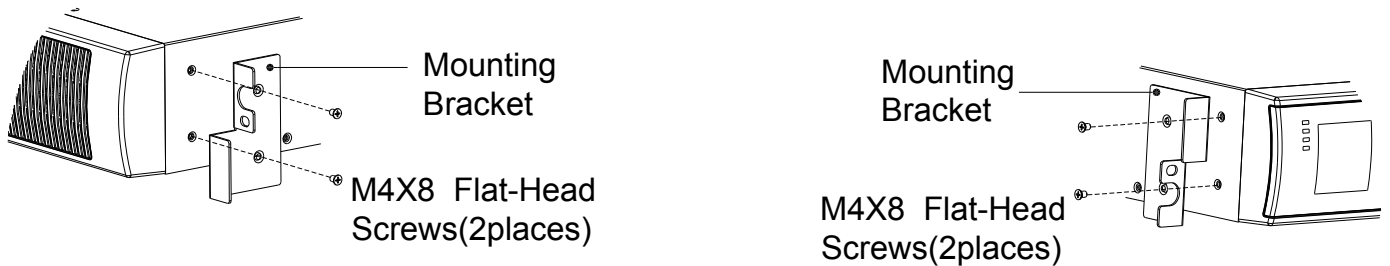

FIG. 4 Installing the Mounting Brackets
9. Align the mounting brackets with the screw holes on each side of the UPS and fix with the supplied M4×8 flat-head screws(see FIG.4)